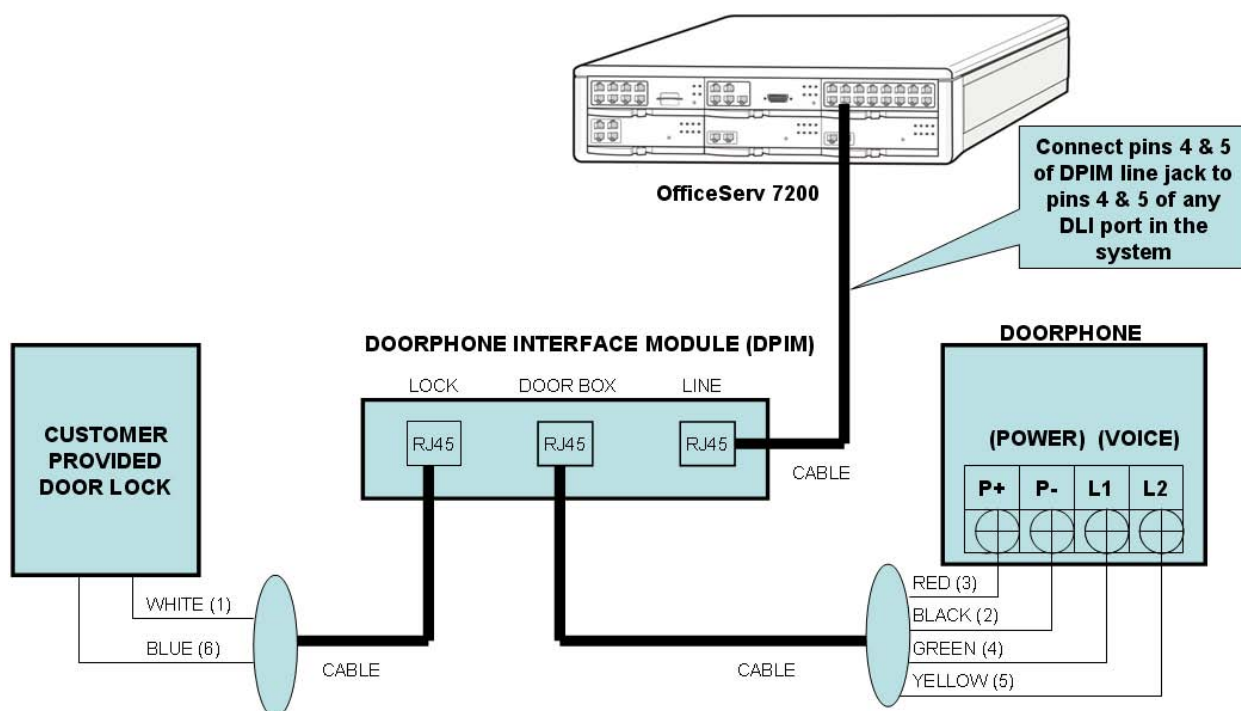

Figure 7.9 Connecting a Door Phone and a Door Lock
- 1) Connect the Door Phone Interface Module (DPIM) line jack to any DLI port in the OfficeServ 7200 system using twisted pair (24AWG/26AWG). Use MMC 221 to assign a directory number to the doorphone. See figure 7.9.
- 2) Connect the Door Phone to the DPIM-door box jack using 4 conductor twisted pair cable. See figure 7.9 for power and voice pair pin assignments.
- 3) If required connect a custom provided door lock to the lock contact pair on the DPIM using twisted pair wire (24/26 AWG) as indicated in figure 7.9.